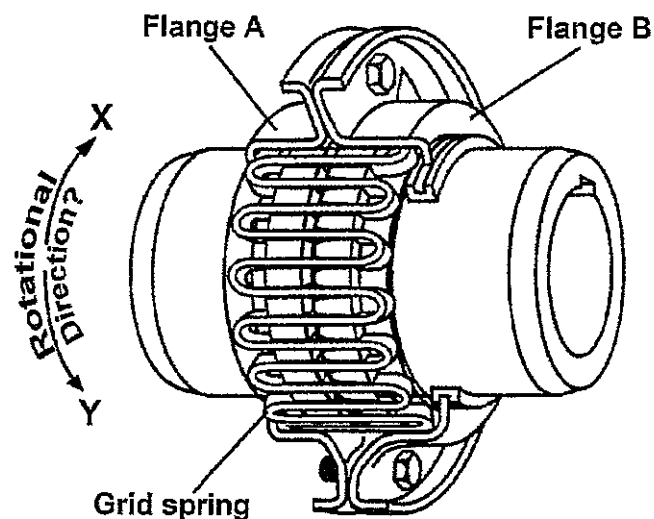

FIGURE 1
- 1.2 Refer to FIGURE 1 below and answer the questions that follow.